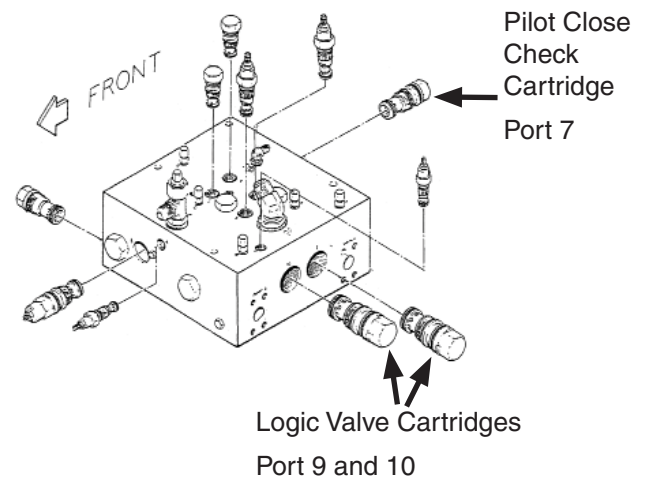

Figure 5-32. Plunger Cylinder Valve Assembly
1. Remove Pilot Close Check and Logic Valve Cartridges (see Figure 5-32).